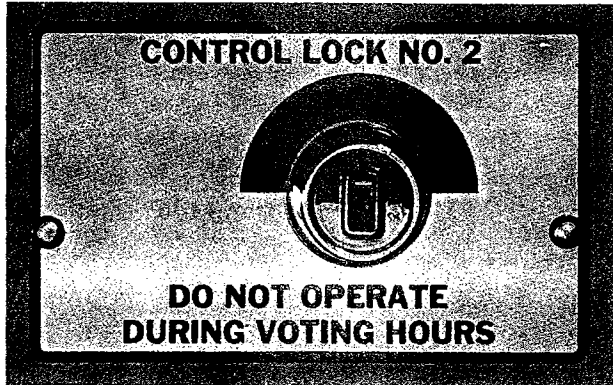

Figure 8. Control Lock No.2 in DOWN position
3. If the red segment of Control Lock No.2 is not in the DOWN position, (Figure 8) insert Key No.2 in lock and turn to move red segment of lock to DOWN position. Remove key.